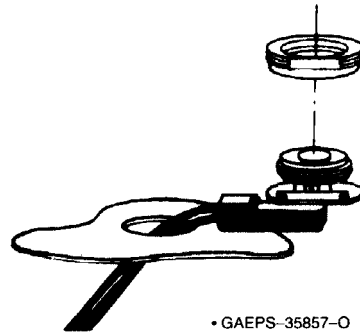

Figure 3.
5. Refer to Figure 3. Insert the end of the coaxial cable into the mounting hole as shown; then route the cable between the roof and headlining to the radio set.